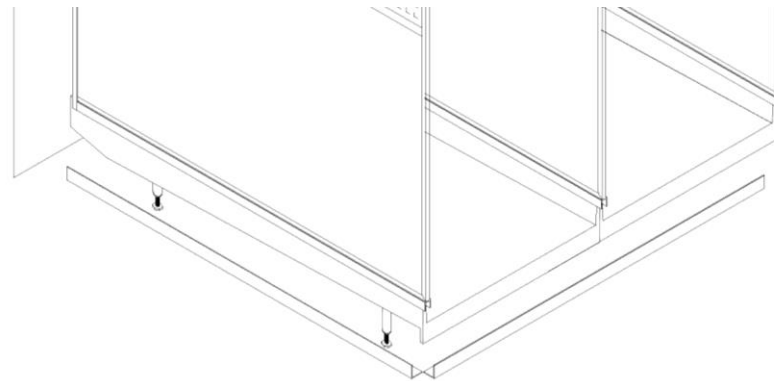

Fig. 28
2. Place aluminum angle supports along chalk lines to determine proper fitment. Some trimming of aluminum angle supports using a 4 1/2" Angle Grinder w/Abrasive Cutoff Wheel may be necessary to achieve proper fitment, depending on individual application. See Fig. 28.